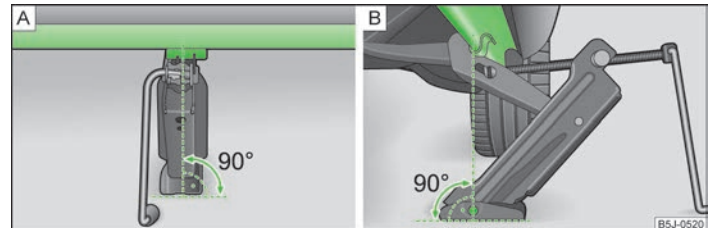

Fig. 150 Attach lifting jack
- Align the lifting jack so that its claw grasps the web » Fig. 150 - B below the embossing in the side surface of the lower sill.
- Ensure that the entire surface of the lifting jack base plate rests on level ground and is located in a vertical position to the area » Fig. 150 where the claw grasps the web.